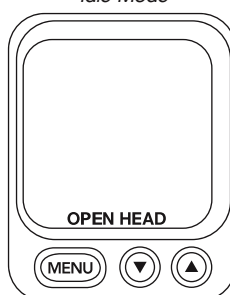
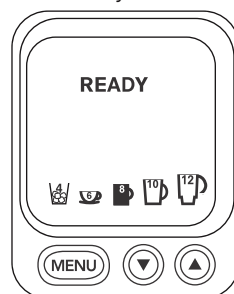

figure 3
figure 4
7. When the control panel displays OPEN HEAD (see figure 3), open and close the brewing chamber. READY and brew size icons will be displayed with the default size shown as a solid mug (see figure 4).